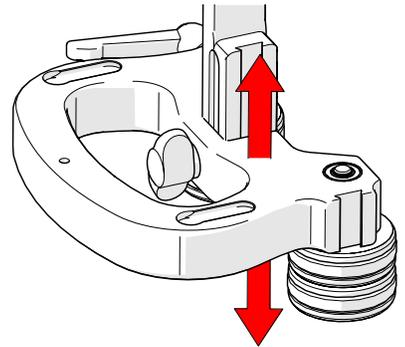

Fig. 27 - Simple wheel block positioning
4. Position the wheel block with handle to the appropriate location (Fig. 27) on the dual pivot frame bar.